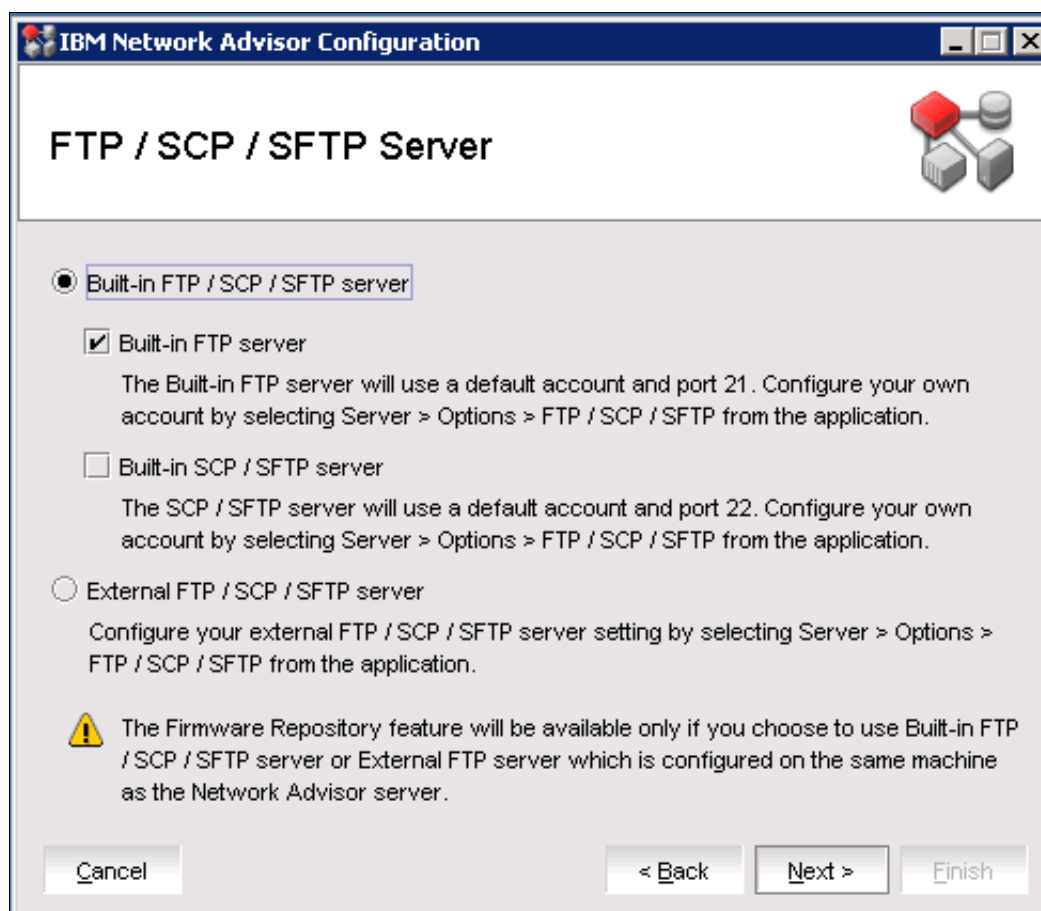

Figure 3-12 Choosing an FTP server
12.The FTP / SCP / SFTP Server window opens and prompts you to configure the FTP server, as shown in Figure 3-12.